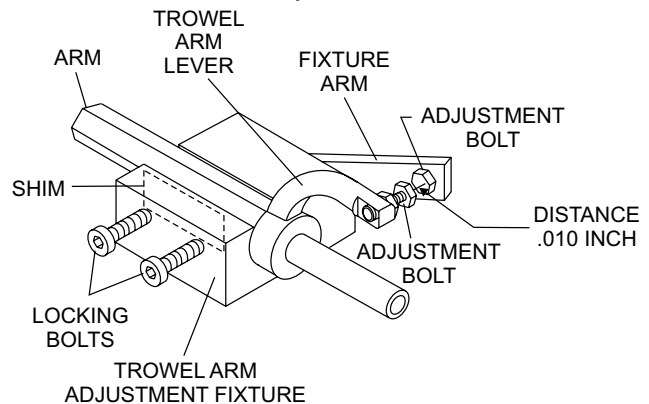

Figure 62. Trowel Arm Adjustment Fixture
3. Next, check the clearance between the round shaft and the test surface as one of the flat hex sections of the arm rests on the test surface. Rotate the arm to each of the flat hex sections and check the clearance of the round shaft. Use a feeler gauge (Figure 62) of .005 inch (0.127 mm). Each section should have the same clearance between the round of the trowel arm shaft and the test surface.
1. Unscrew the locking bolts on the adjustment fixture and place the trowel arm (lever attached) into the fixture channel as shown in Figure 62.
5. Adjust the bolt distance shown in Figure 62 to match one of the arms. The other arms will be adjusted to match this distance.